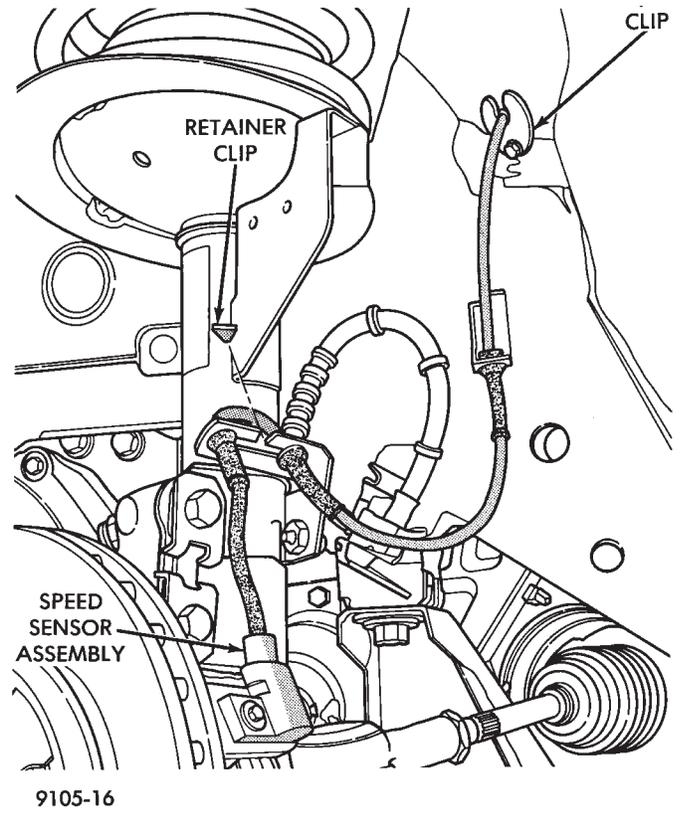

Fig. 11 Front Wheel Speed Sensor Routing
- (1) Raise vehicle and remove front wheel and tire assembly.
- (2) Remove screw from clip (Fig. 11) that holds sensor assembly grommet into fender shield.
- (3) Carefully, pull sensor assembly grommet from fender shield. **When removing grommet from fender shield, do not pull on speed sensor cable.**
- (4) Unplug speed sensor cable connector, from vehicle wiring harness.
- (5) Remove the 2 screws (Fig. 11) that secure the speed sensor cable, routing tube to the fender well.
- (6) Remove the 2 sensor assembly grommets from the retainer bracket, on the strut damper (Fig. 11).
- (7) Remove speed sensor assembly to steering knuckle attaching bolt (Fig. 11).
- (8) Carefully, remove sensor head from steering knuckle. If the sensor has seized, due to corrosion, use a hammer and punch to tap edge of sensor ear
- (1) Connect the wheel speed sensor cable connector, to the vehicle wiring harness.
- (2) Push sensor assembly grommet into hole in fender shield. Install clip and screw (Fig. 11). Torque screw to 4 N•m (35 in. lbs.).
- (3) Install speed sensor cable grommets in bracket on strut damper (Fig. 11).
- (4) Install speed sensor cable routing tube to fender well (Fig. 11). Torque both screws to 4 N•m (35 in. lbs.).
- (5) Coat the speed sensor with High Temperature Multi-purpose E.P. Grease before installing into the steering knuckle. Install speed sensor attaching screw and tighten to 7 N•m (60 in. lbs.).